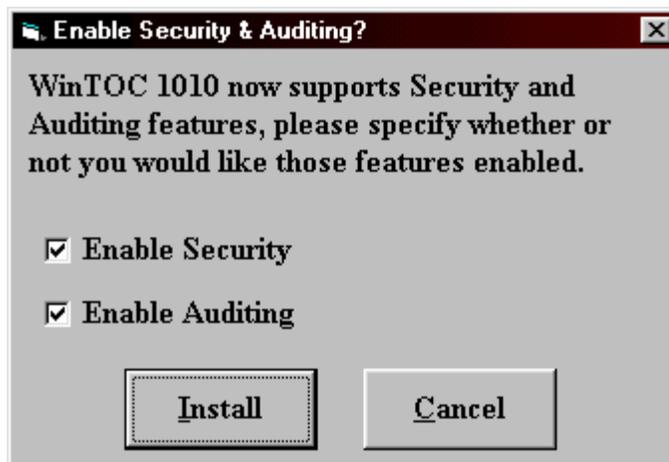

Figure 2.3. Enable Security and Auditing window
6. During installation the **Enable Security & Auditing?** window will appear (Figure 2.3.). Select which features to install, and click **Install** to complete the installation.